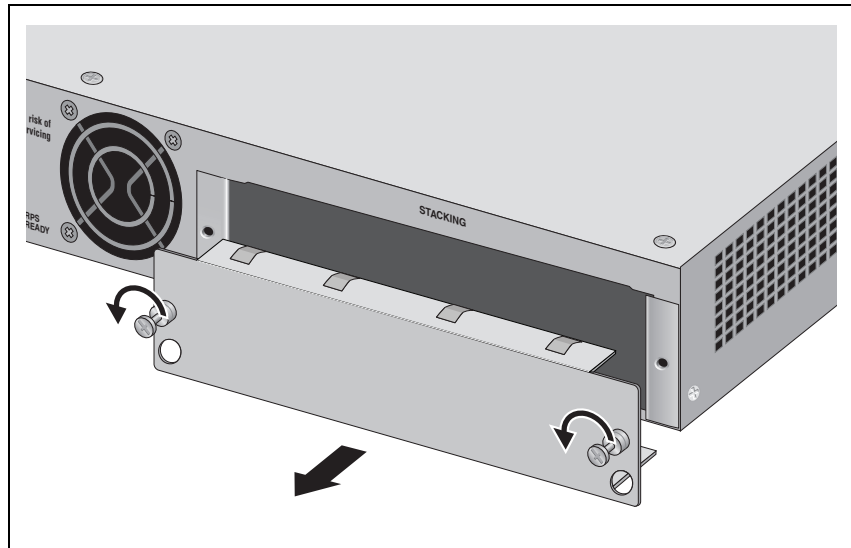

Figure 58. Removing the Blank Panel from the Expansion Slot
2. Remove the blank panel or AT-LBM module from the expansion slot on the rear panel of the switch by loosening the two captive screws on the panel with a cross-head screwdriver, as shown in Figure 58.